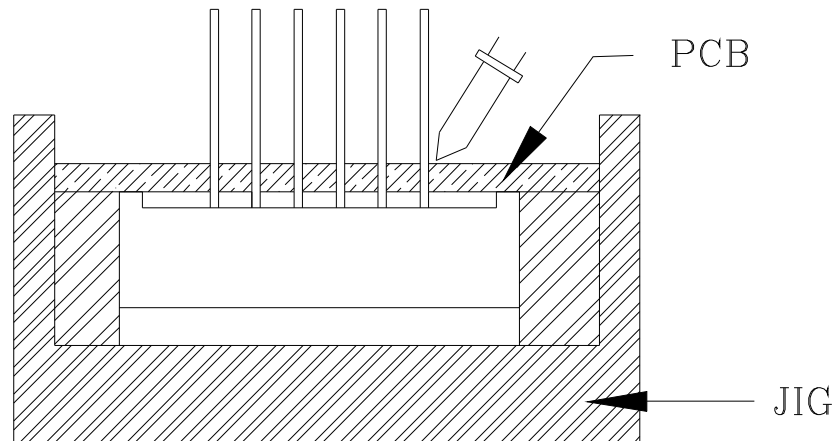

Fig.1
1) When soldering the PIN of Display in a jig that the package is fixed with a panel (See fig.1), be careful not to stress the PIN with iron tip. When soldering Display in a condition that the package is fixed with a panel, be careful not to cling and stress the surface of Display on the panel to avoid damaging the Display.